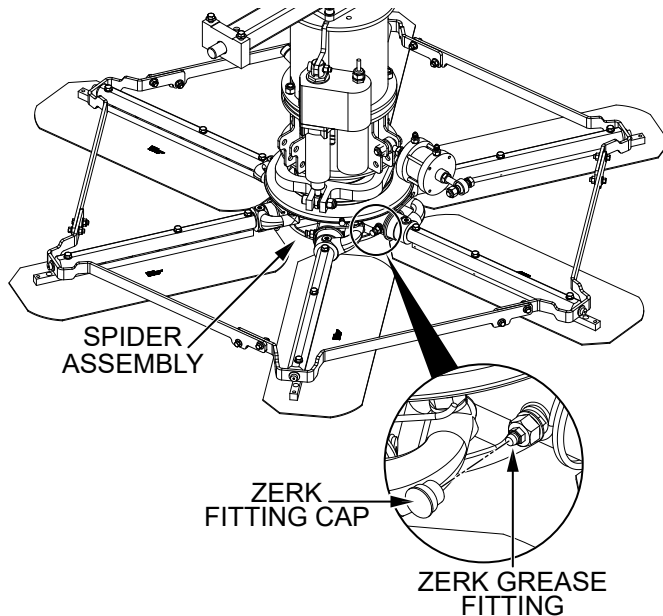

Figure 37. Spider Lubrication
1. Locate one of the **Zerk grease fittings** on either **spider assembly** (Figure 37). Remove the **Zerk fitting cap** and set it aside.